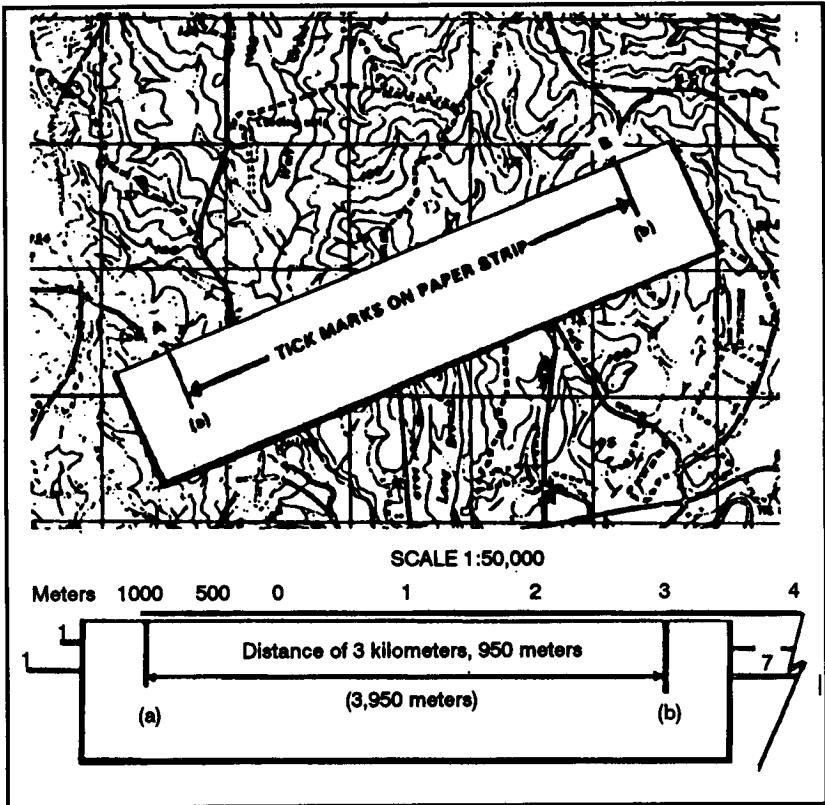

Figure 4-17. Paper-strip method.
a. **Paper-Strip Method.** The paper-strip method (Figure 4-17) is useful when determining longer distances (1,000 meters plus). When using this method, the sniper places the edge of a strip of paper on the map and